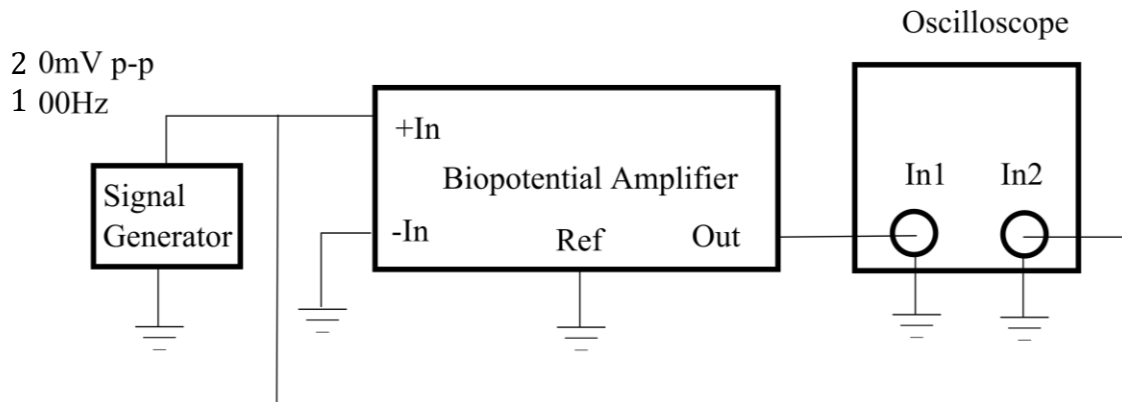

Figure 1: Schematic for measuring non-inverting gain.
2. Connect the input of the instrumentation amplifier to the signal generator and the output to the oscilloscope. Use the settings presented in Figure 1.
2. Generate a sinusoidal signal with $> 20\text{mV}$ p-p amplitude and 100Hz frequency. Use the non-inverting input (Figure 1) and verify the correct gain. What is happening to the signal?